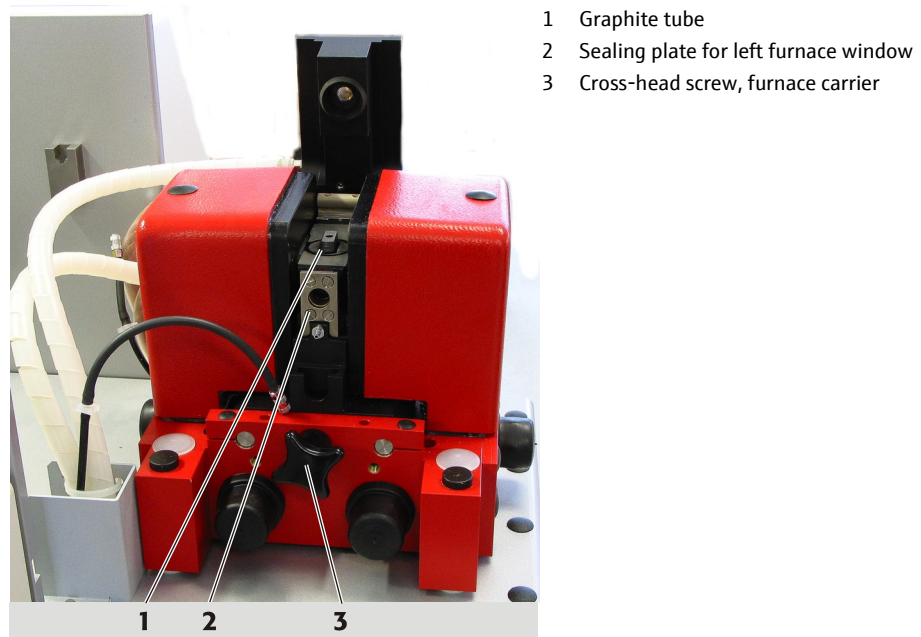

Fig. 49 Driven-out furnace, open, left side
8. Unscrew the sealing plate (2 in Fig. 49) for the left furnace window (4 titan slot-headed-head screws).
9. Loosen the cross-head screw (3 in Fig. 49) to the left of the furnace carrier.
2. Screw the furnace carrier finger tight with the cross-head screw (3 in Fig. 49).